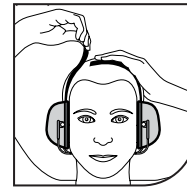

Fig 5
2. Keep the cups in position, place the head strap on top of your head and lock it tight in position (Fig 5).